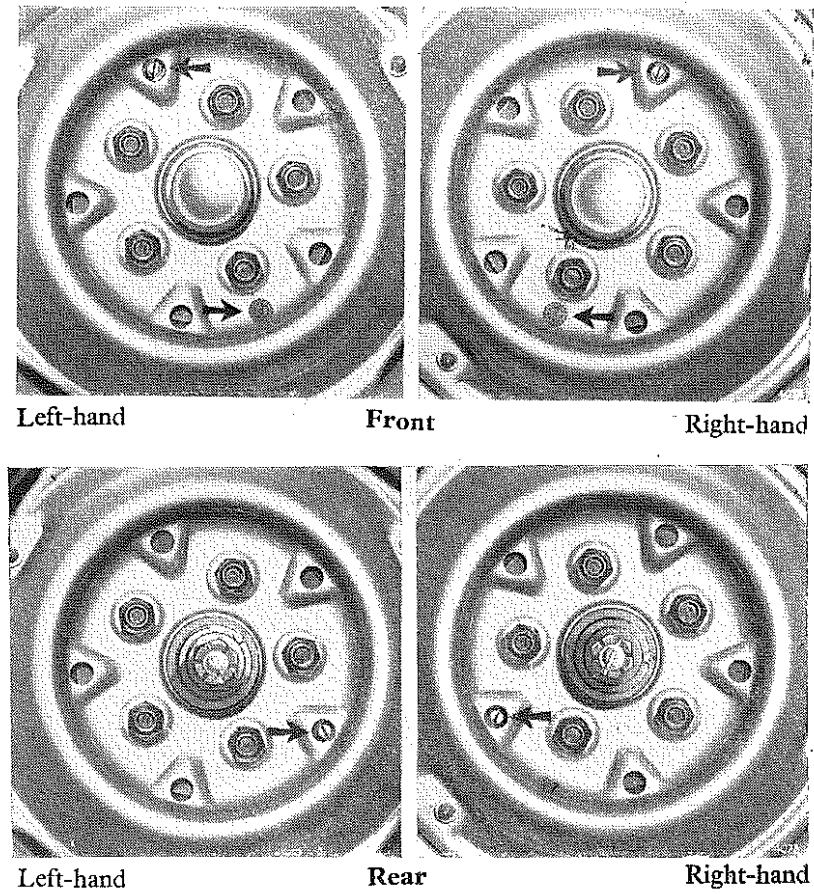

Fig. 39.
3. Rotate wheel until hole in brake drum coincides with screwdriver slot in micram adjuster (see Fig. 39).